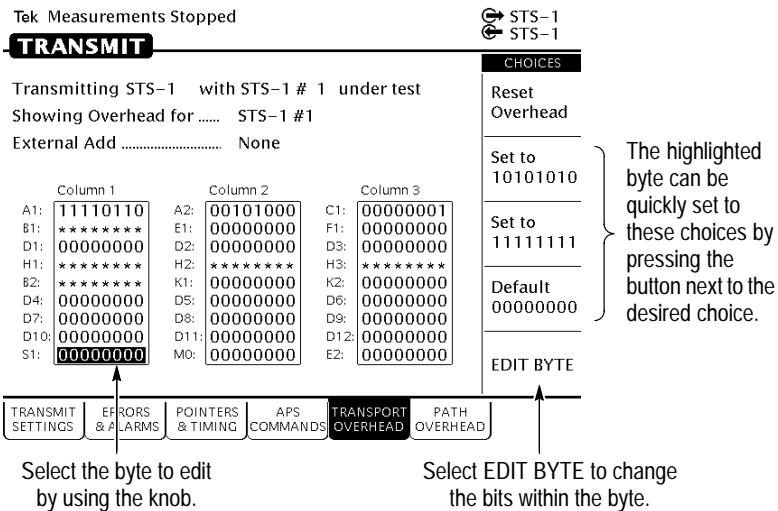

Figure 2–16: Selecting a Byte for Editing
1. Select the byte with the knob (see Figure 2–16).
When in edit mode, the choices along the right side of the display change (see Figure 2–17). The highlight now applies to a single bit.